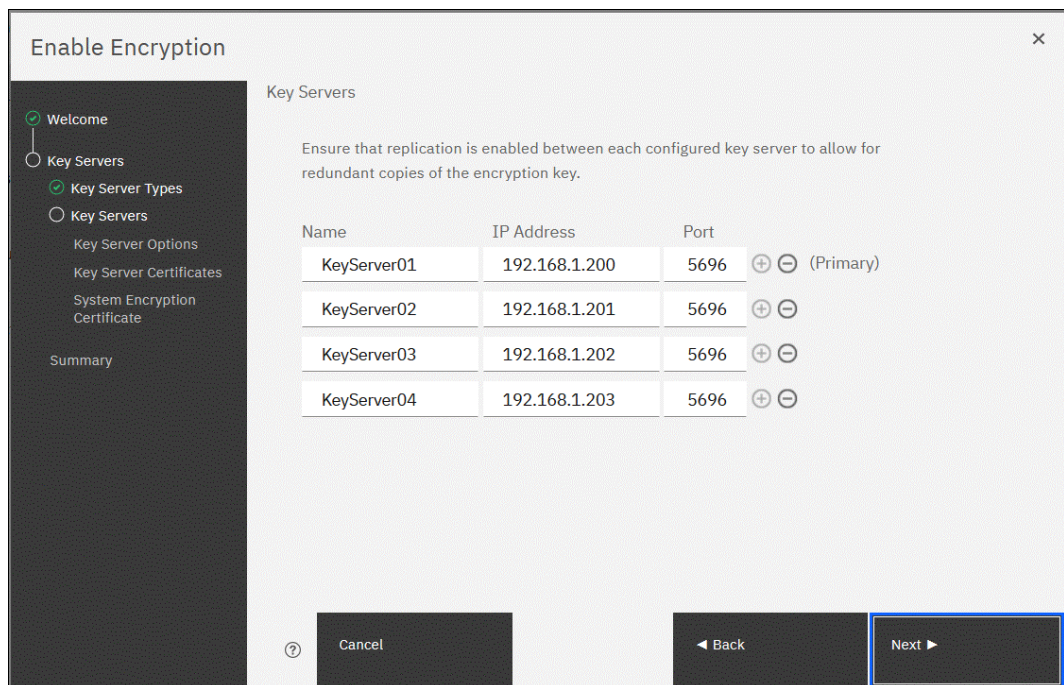

Figure 12-32 Configuring multiple IBM Security Key Lifecycle Manager servers
5. If you want to add secondary IBM Security Key Lifecycle Manager servers, click the + symbol and enter the data for the secondary IBM Security Key Lifecycle Manager servers, as shown in Figure 12-32. You can define up to three extra IBM Security Key Lifecycle Manager servers. Click **Next** when you are done.